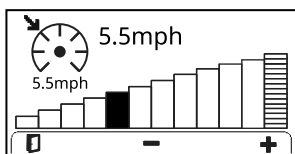

Figure 29
- **Cruise control screen (Figure 29):** Appears when cruise control is engaged (while you are not within an individual menu screen), or when you press the  button with cruise control engaged.